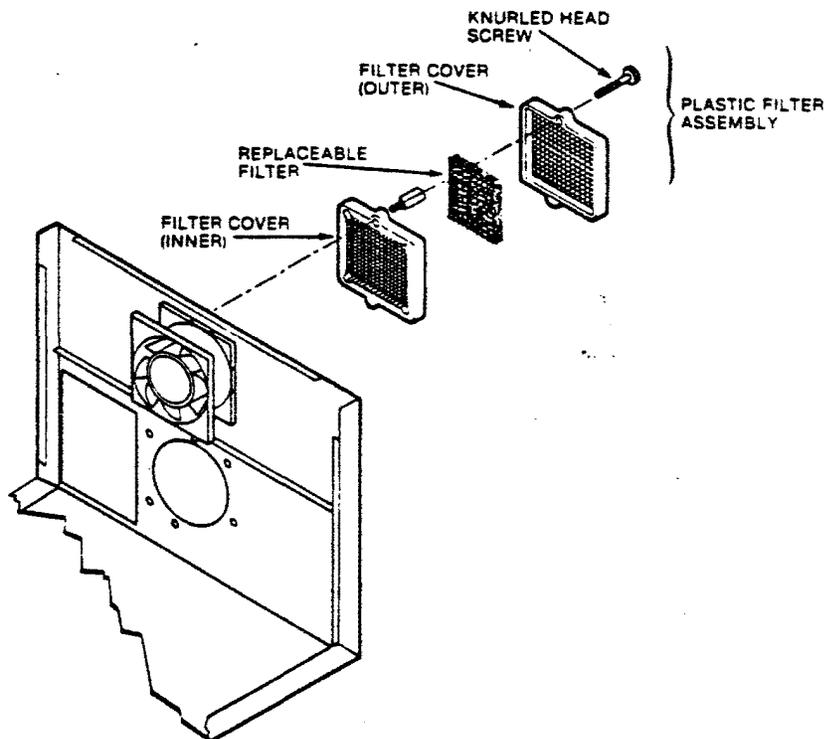

Figure 4-1 Fan Filter Assembly
Figure 4-1 shows the parts associated with a single fan filter assembly. The assembly consists of:
Compare the filter housings on your unit with those shown in Figure 4-1.
- b) Compare the fan filter assemblies on the unit to those shown in Figure 4-1.